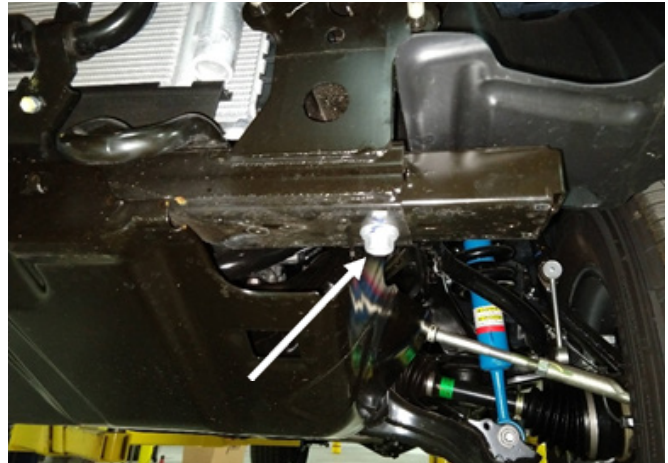

Figure 11
11. Using a 17mm socket wrench, remove the screw on either end of the bottom of the core support. Leave the crash bars in place. (Figure 11)